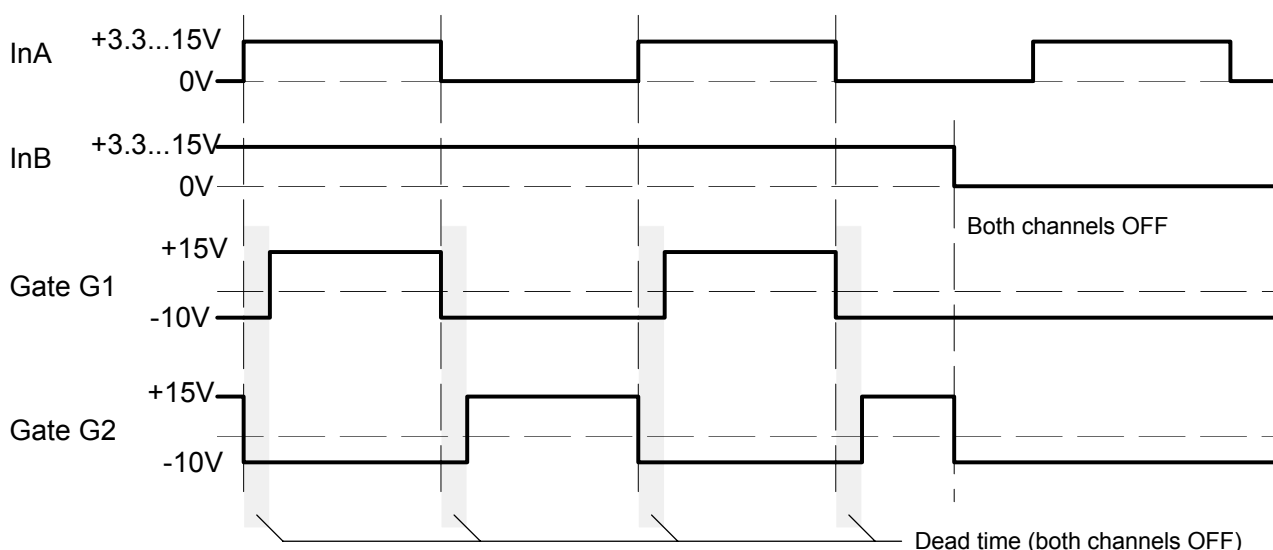

Fig. 6 Signals in half-bridge mode
If the MOD input is connected to GND with a resistor  $71k < R_m < 181k$  and a capacitor (recommended value:  $C_m = 22nF$ ), half-bridge mode is selected. In this mode, the inputs INA and INB have the following functions: INA is the drive signal input while INB acts as the enable input (see Fig. 6).
- The first mode is the default IGBT setup with both a positive (regulated) turn-on voltage of 15V (typical) and a second (non-regulated) turn-off voltage (see Fig. 6).
Each channel of the 2SC0650P driver is equipped with a Vce monitoring circuit. The recommended external circuitry is shown in Fig. 6. A resistor (Rthx in Fig. 6) is used as the reference element for defining the turn-off threshold. The value of the current through Rthx is 150μA (typical). It is recommended to choose threshold levels of about 10V (Rthx values around 68kΩ). In this case the driver will safely protect the IGBT against short-circuit, but not necessarily against overcurrent. Overcurrent protection has a lower timing priority and is recommended to be realized within the host controller.